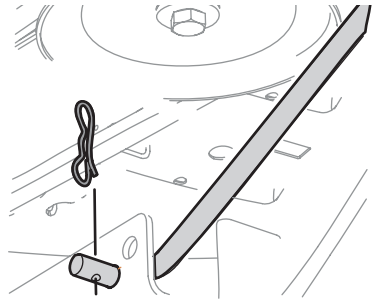

Fig. 46
- Pull the bow-tie pin out of the front deck lift rod securing it to the deck (Fig. 46). Slide the deck lift rod out of the front hanger bracket.